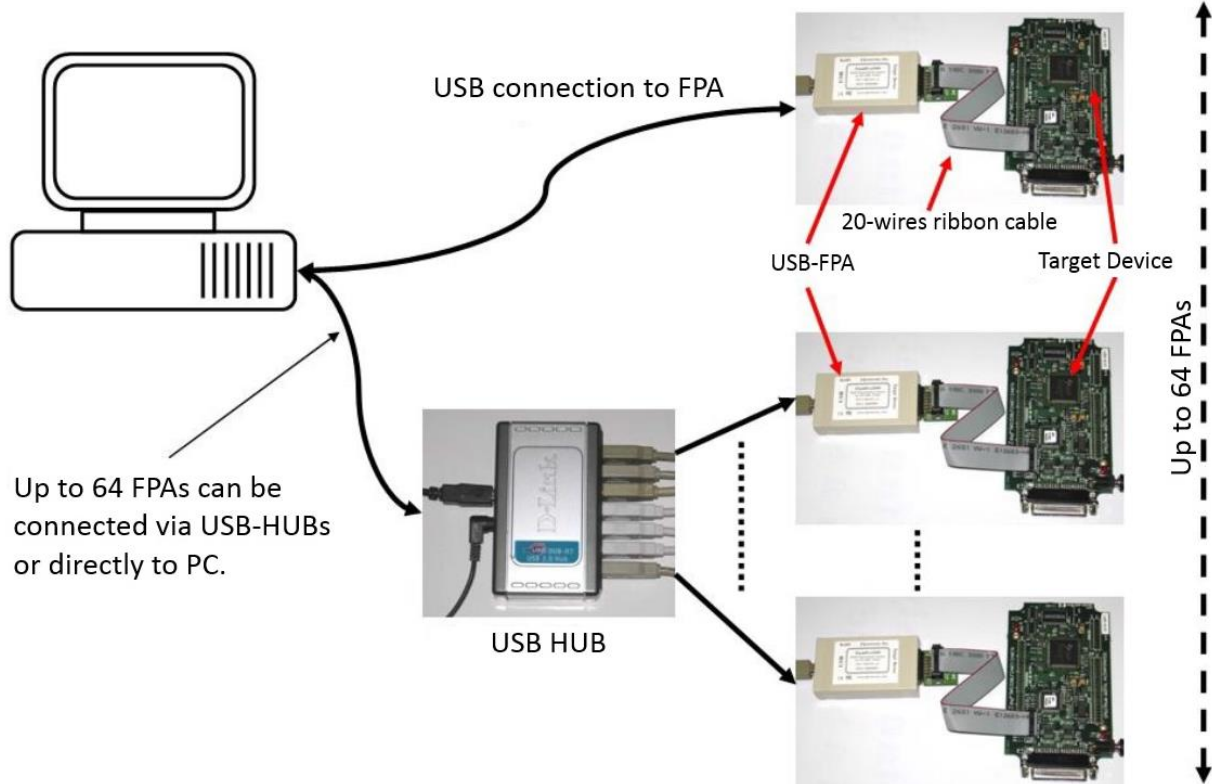

Figure 3.6: Hardware setup, cable connections.
1. Connect the USB-FPA Flash Programming Adapter to the PC USB Port or via USB-HUB using provided cable extender (USB-A to USB-B) (see Figure 3.6).